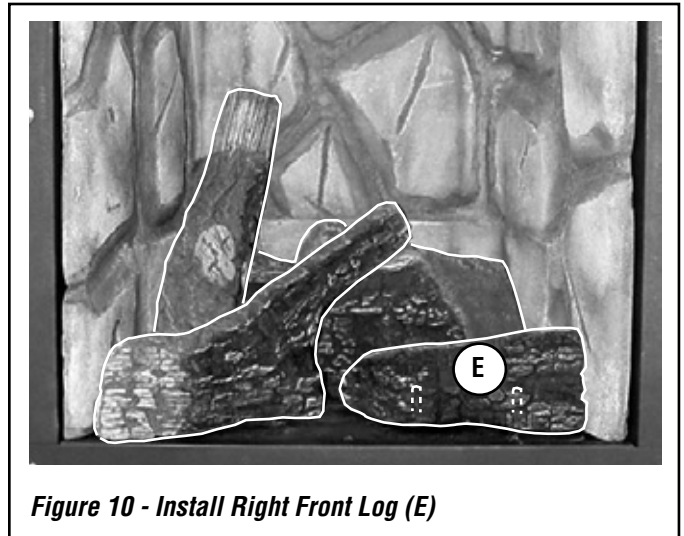

Figure 10 - Install Right Front Log (E)
4. Place the right front log (E) as shown in Figure 10. Position the hole on the bottom of log E over pins #4 and # 5.